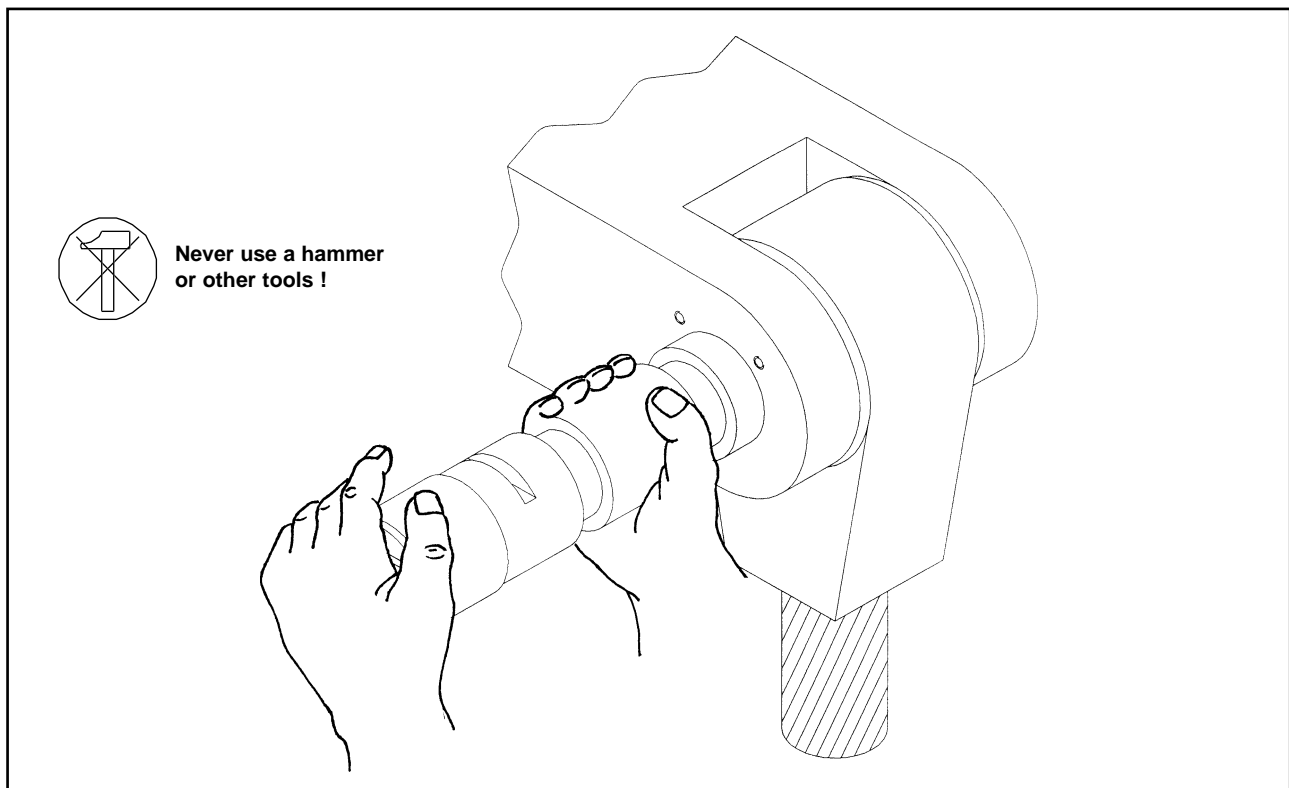

Fig. 4-5 : Inserting the load measuring pin.
- 7) Slide manually the load measuring pin into its seat (see figure 4-5), until the mortise for receiving the pin holder key reaches the lateral support. This inserting of the load measuring pin should be done without the use of any tool. If it is impossible to slide the pin in, check the alignment (concentricity and axiality) of the elements and machine again, if necessary. Insert the pin holder key into the mortise and align the key to coincide with the threaded holes for the fastening screws.